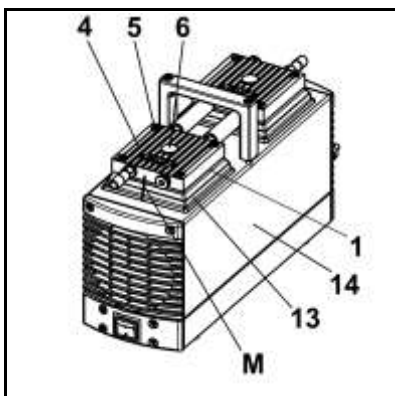

Fig. 12: Remove pump heads
1. Place the two pump heads that are joined by the pneumatic connecting tube on the housing according to the markings (M).
i Make sure the cover (fig. 12/13) is placed on the pump head and is not jammed. For this, carefully slide a small screw driver between the cover (13) and the pump head.